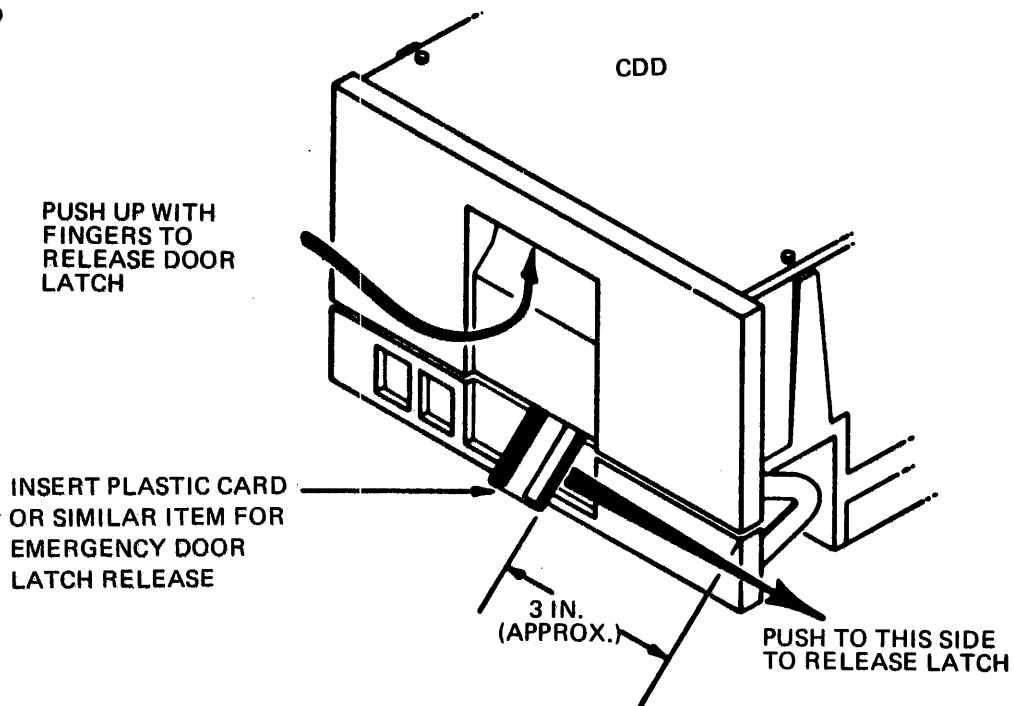

Figure H-9 Emergency/Drive Failure Cartridge Door Opening Procedure
In case of an emergency need to remove the cartridge during operation, perform the following procedure (see Figure H-9).
2. See Figure H-9. Insert a plastic credit card or similar object into the space between the access door and the lower front panel. Push the small release tab behind the panel (about 3 inches from the right edge) toward the right with the card and hold while pushing up with the fingers on the door latch release. Pull the door open and remove the cartridge. Close the front access door.